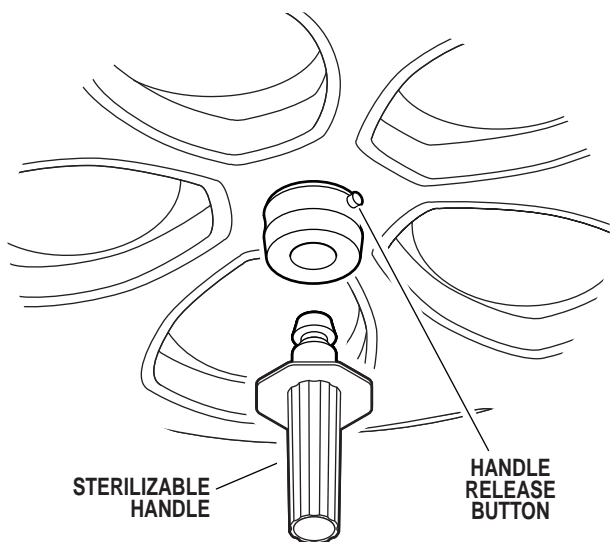

Figure 5. Center Focus/Positioning Handle Installation
3. When the surgeon is ready to use the light, install the sterilized center focus/positioning handle using the following procedure. See figure 5. Be sure handle is properly secured before using the lighthead. Possible injury to patient or staff could result if a handle is not installed properly.